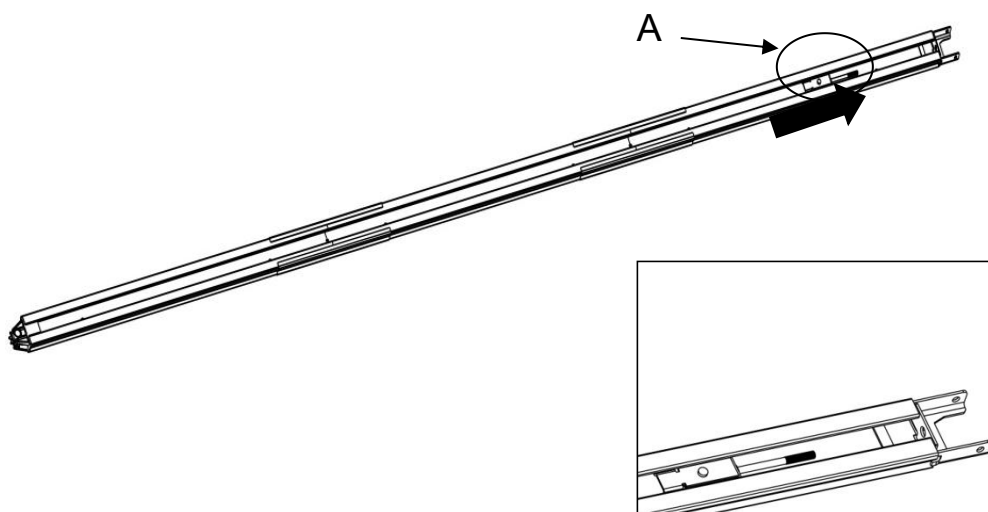

Fig. 9
4. As Fig.9,pull the screw rod "A" along with inner chain to the end of top rail ;